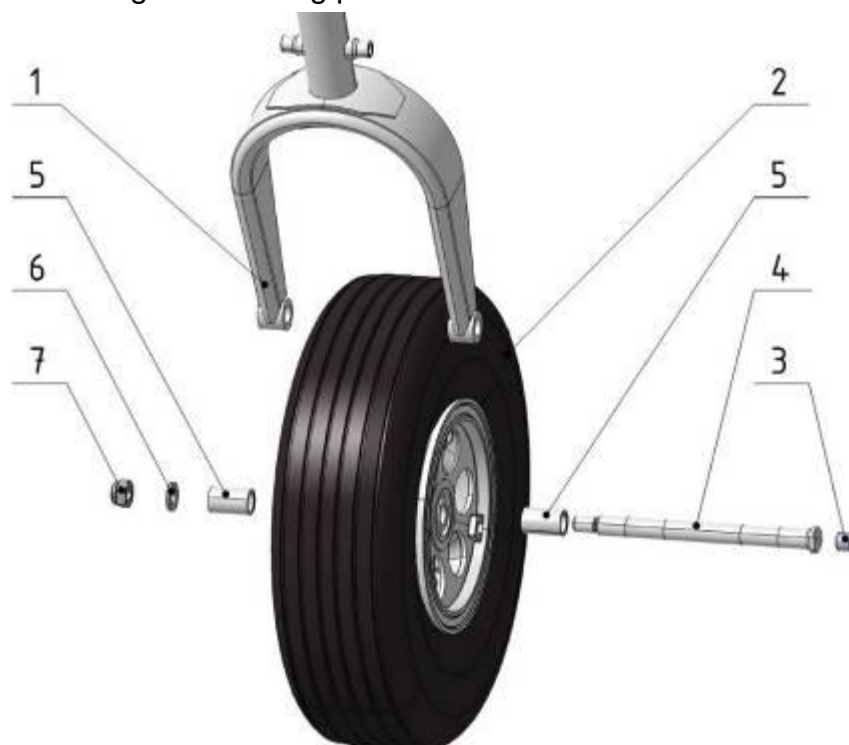

Fig. 32-20-5
B. Nose Wheel Removal (Fig. 32-20-5)
C. Nose Wheel Installation (Fig. 32-20-5)